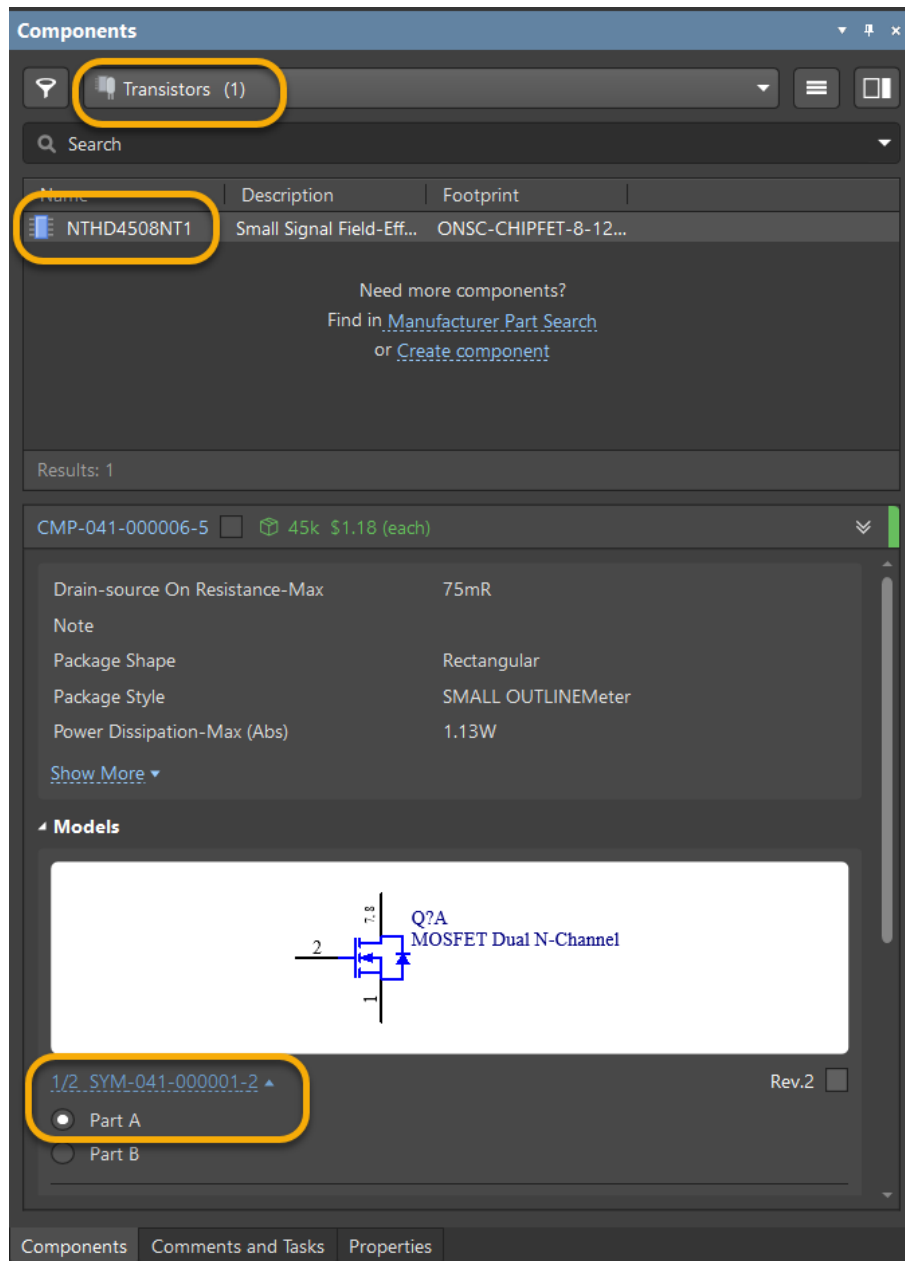

Figure 16. Placing NTH Multi-Part into the Relay I/O schematic
30. Place NTHD4508NT1. Navigate to the component to find it as shown in Figure 16.
- a) This is a multi-part component as indicated by the part information below the Symbol preview as shown in Figure 16. A multi-part component is represented by multiple schematic symbols. Expand the *Models* pane if necessary to see this.